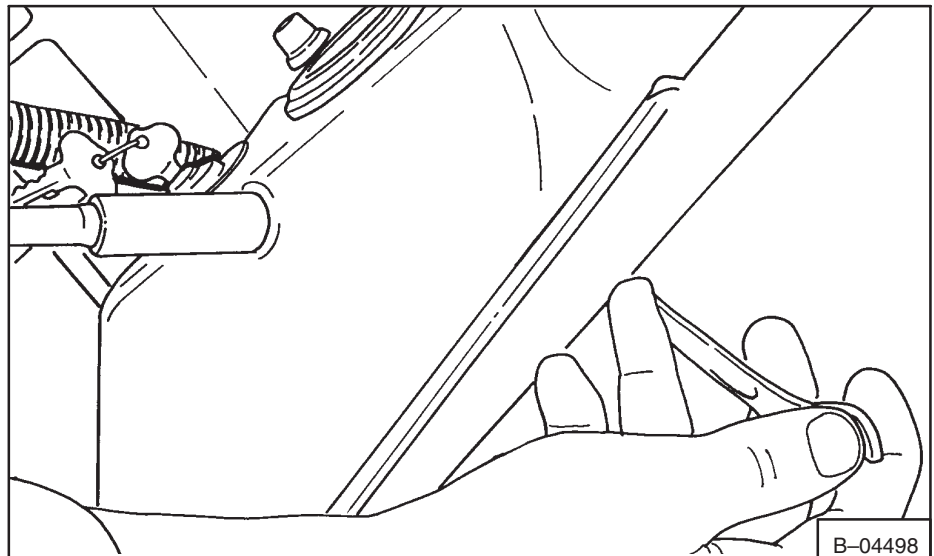

**Fig. 6-5** Removing Clip
6. Remove all the harness clips on the operator guard up to the dash panel (Fig. 6-5).
6. Install the harness clips along the side of the operator guard (Fig. 6-5).